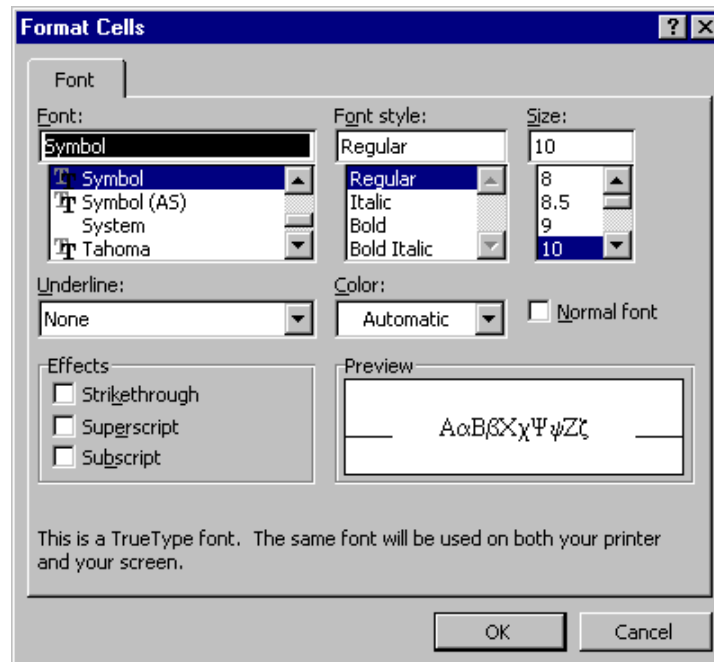

FIGURE 8:
12. In D8 enter the text "Feedback b". Place the mouse between the labels D and E at the top of the columns and drag the mouse to the right to make the D-column wide enough to contain the text "Feedback b". Click on D8 and highlight "b" in the text window. Select FORMAT/CELLS and scroll down the FONT window to select SYMBOL, as shown in Figure 8.